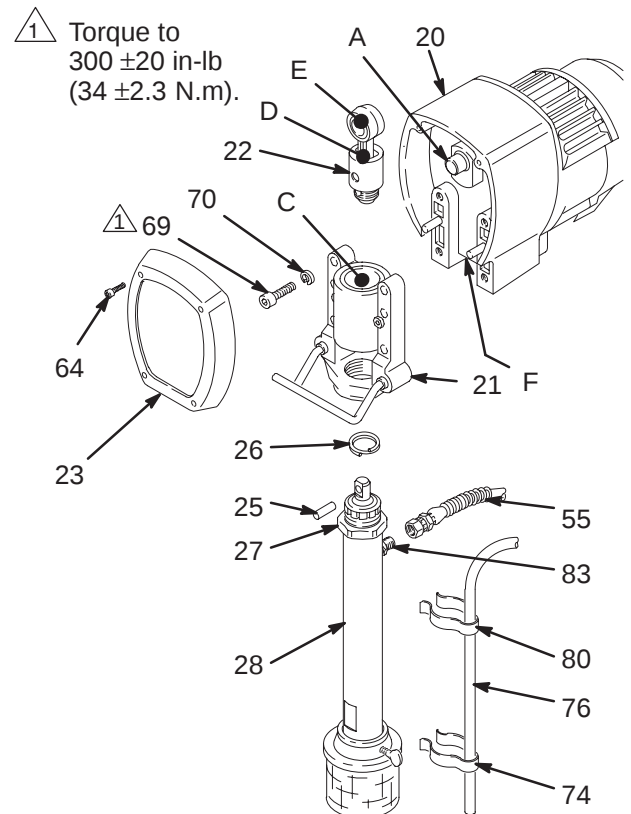

Fig. 5
2. Fig. 5. Remove the screws (64) and the front cover (23).
3. Remove the spring clips (80, 74) and the drain hose (76).
4. Disconnect the pump outlet hose (55) from the displacement pump outlet nipple (83).
5. Use a screwdriver to push up the retaining spring (26) at the top of the pump. Push the pin (25) out the rear.
6. Loosen the jam nut (27) with an adjustable wrench. Unscrew and remove the displacement pump.
7. Use a hex key wrench to remove the four screws (69) and lockwashers (70) from the bearing housing (21).
8. While pulling the connecting rod (22) with one hand, lightly tap the lower rear of the bearing housing (21) with a plastic mallet to loosen it from the drive housing (20). Pull the bearing housing and the connecting rod off the drive housing.
9. Inspect the crank (A) for excessive wear and replace parts as needed.
10. Evenly lubricate the inside of the bronze bearing (C) in the bearing housing (21), and the inside of the connecting rod link (D), with high-quality motor oil (**do not use grease**). Liberally pack the roller bearing (E) in the connecting rod (22) with bearing grease.
11. Assemble the connecting rod (22) and bearing housing (21).
12. Clean the mating surfaces of the bearing housing (21) and drive housing (20).